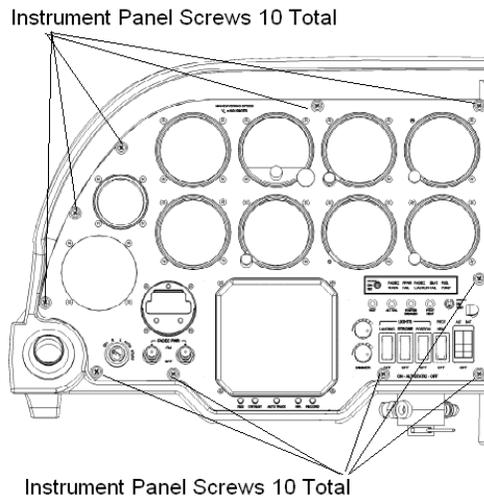

Figure 34-39 Location of the Screws Securing the Instrument Panel
4. Remove the ten screws securing the instrument panel to the instrument console. See Figure 34-39 for location of the screws.